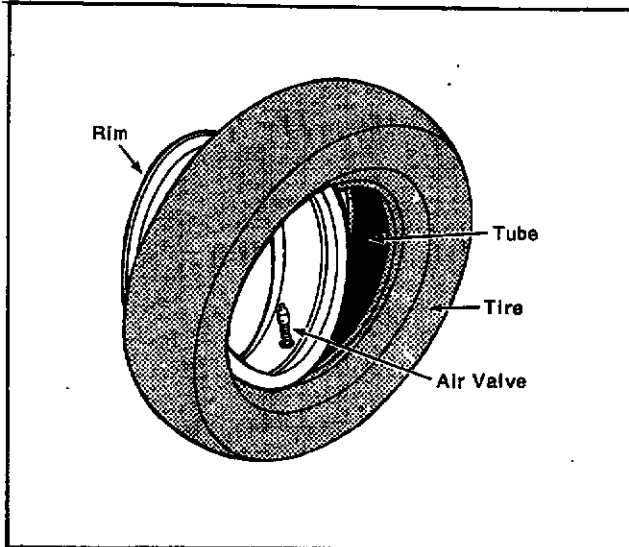

Figure 12
1. Insert tube into tire. Align valve with rim valve slot. Insert rim into tire. (See Fig. 12).